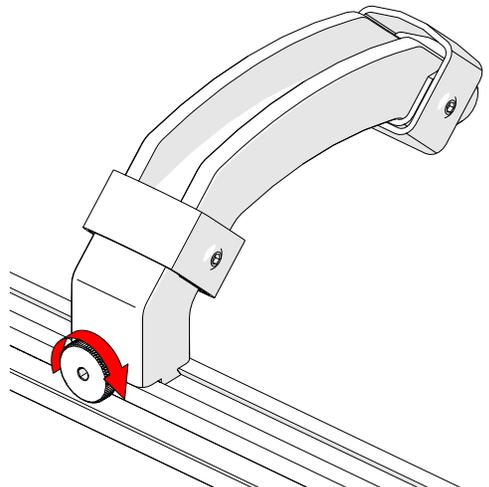

Fig. 17 - Tighten handle knob
2. Tighten the handle knob to fasten the handle to the frame bar (Fig. 17).